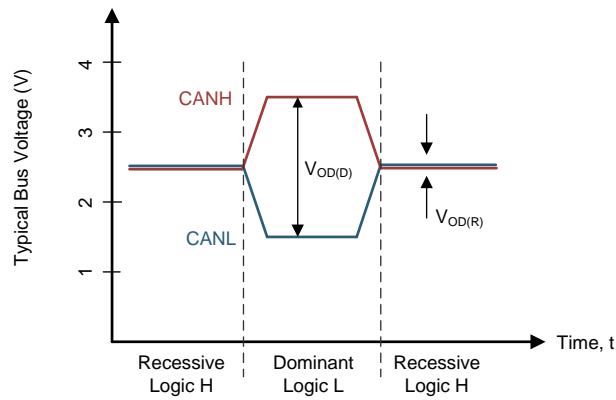
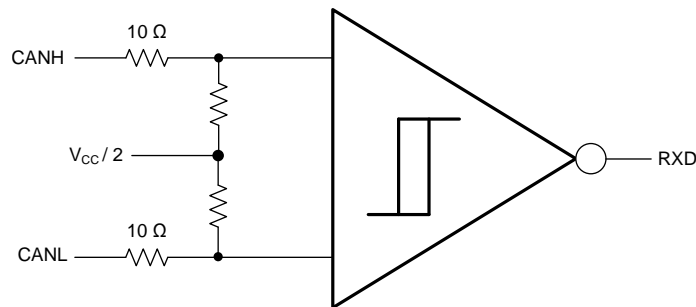

图 6. Bus States (Physical Bit Representation)
图 7. Common Mode Bias Unit and Receiver
The CAN bus has two logical states during operation: recessive and dominant. See 图 6 and 图 7.
(1) H = high level, L = low level
(2) H = high level, L = low level, Z = high Z receiver bias
(3) For Bus state and bias see 图 7